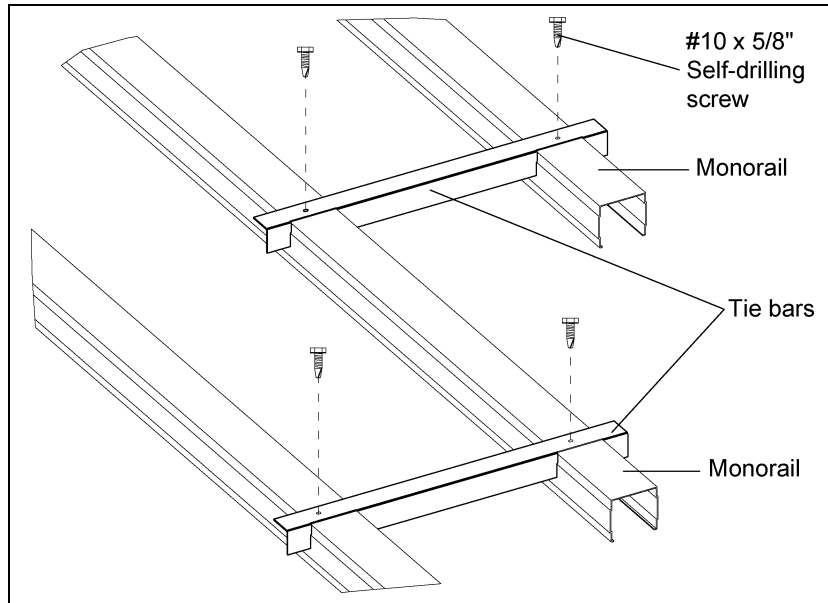

Figure 4B Tie Bar Detail
2. A single #10 x 5/8" self-drilling screws may be used to fasten the tie bars at each end to the rails as necessary. (See Figure 4B.)